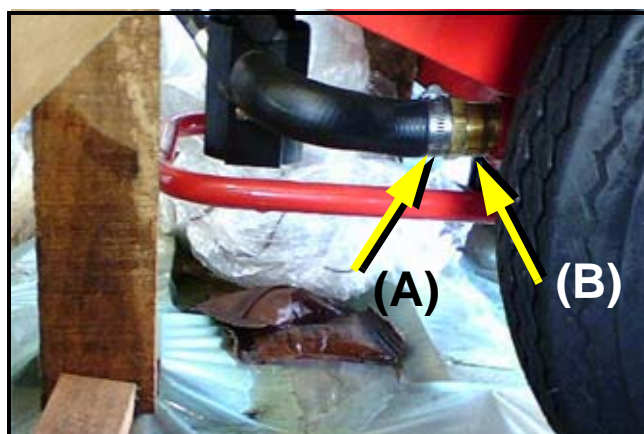

FIGURE 1
4. Refer to Figures 1 and 2. Loosen hose clamp (A) only slightly so that the brass filter fitting (B), when loosened, will rotate inside the hose. DO NOT remove the hose from the filter fitting or fluid will drain from tank.